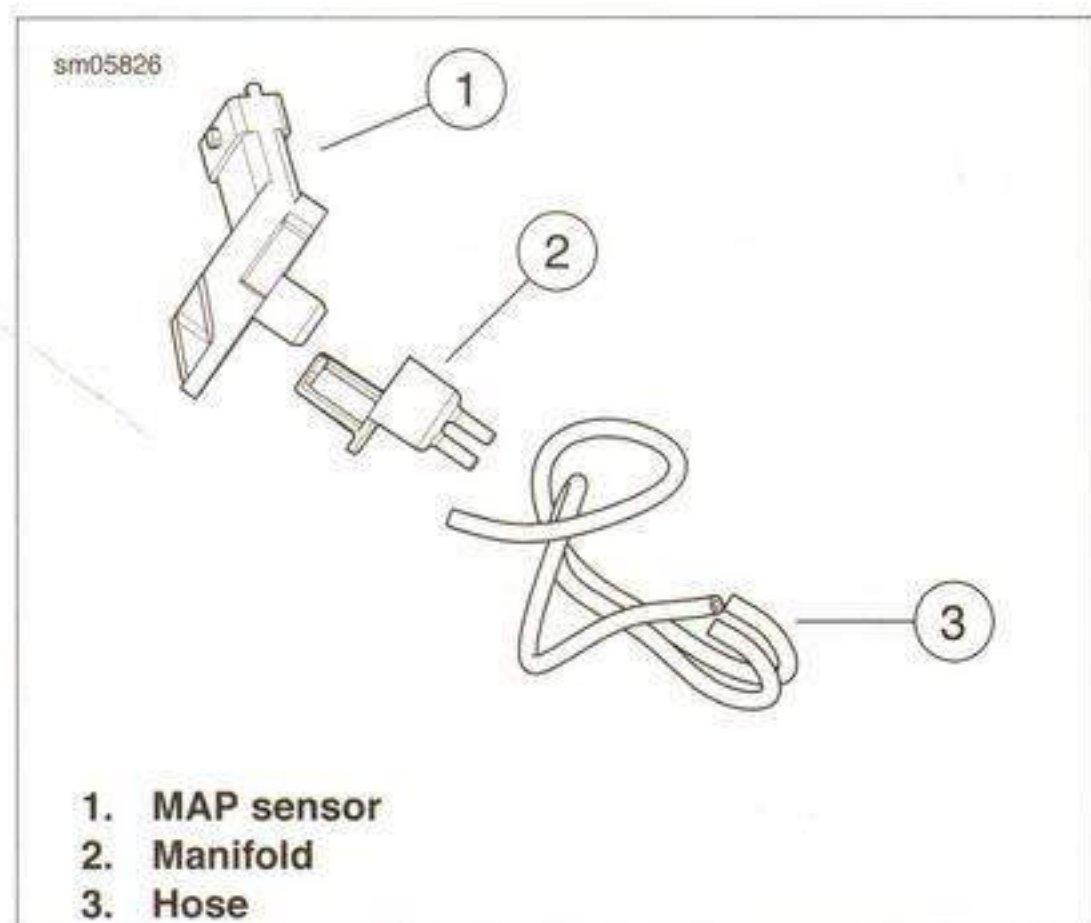

Figure 4-15. MAP Sensor Assembly
4. See Figure 4-15. Remove the hoses (3) from the intake flanges and service the manifold (2) and sensor (1) as required.